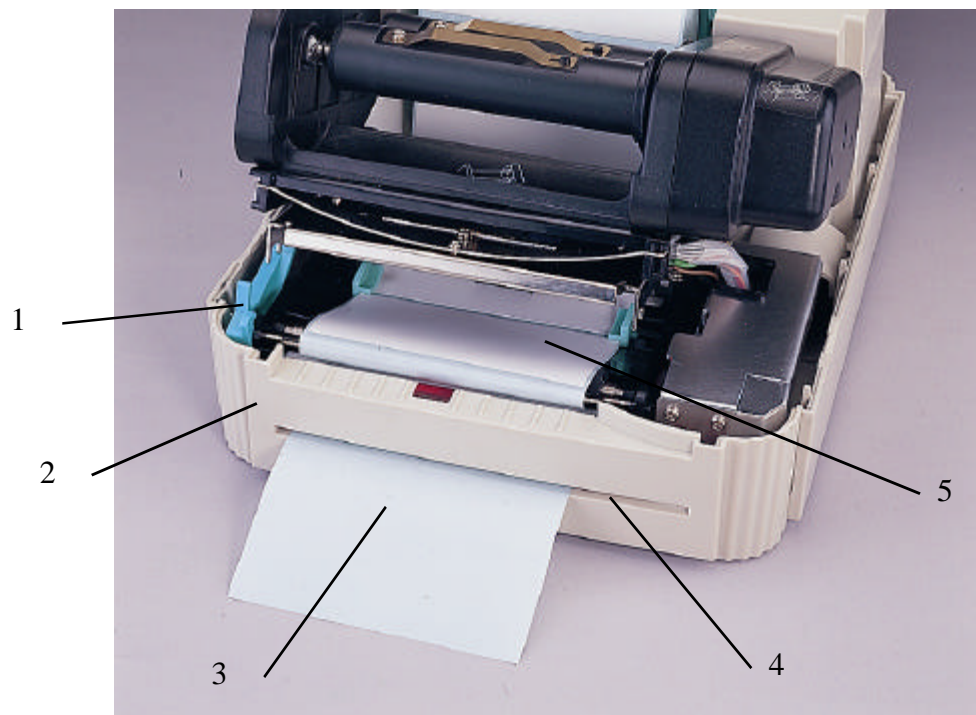

Figure 8. Printer ready for self-peeling function
3. Feed the backing paper through the backing paper opening in the front panel, as shown in Figure 8.